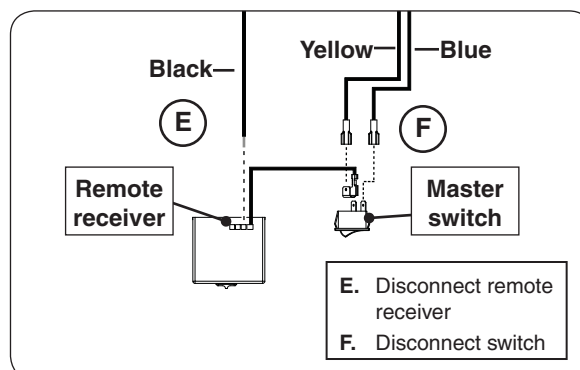

Fig. 48-3 Disconnect receiver & switch wires
3. Locate the remote receiver on the control panel, remove the 2 hex screws using a $\frac{1}{4}$ " nut driver, then pull the receiver (and bracket) out of the control panel. Disconnect the receiver and switch wires as shown in Fig. 48-3, E-F. The valve box can now be pulled away from the unit.